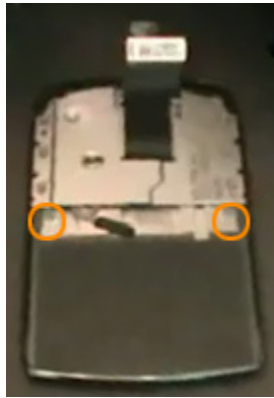

Figure 6
- Unscrew two more T3 screws at the locations shown in the figure 6 using a T3 Torx screwdriver.